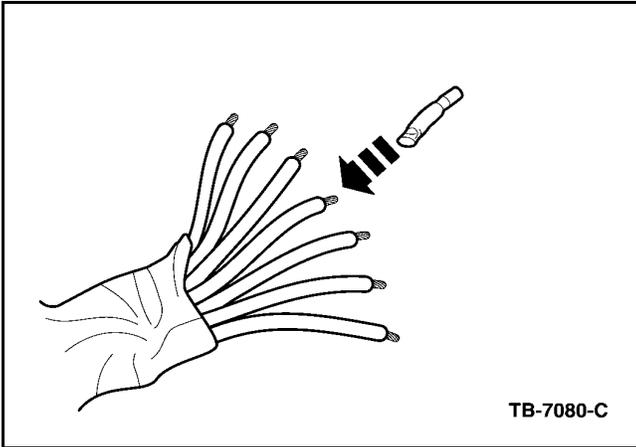

Figure 3 - Article 04-14-7
2. Using dual wall heat shrink tubing, position tubing over each individual wire (Figure 3).